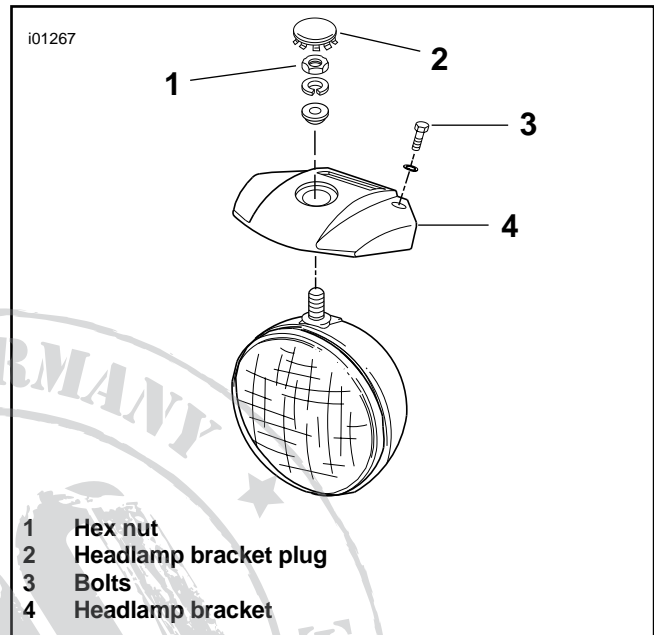

Figure 1. Headlamp assembly
1. See Service Parts illustration. Install the edge gasket (5) to the headlamp visor (2). The gasket should be installed at the headlamp opening as indicated in illustration. When installing gasket, start at the top of the headlamp opening and work gasket into place, finishing with the seam at the top.
3. See Figure 1. Remove the plug off the top of the headlight with a small flat screwdriver.
4. Remove the nut underneath the plug as shown. Replace the nut with the hex spacer (4) from kit. Leave the nut loose until Step 5 is complete.
6. Attach the rubber mount (3) to the hex spacer (4) and tighten securely.
7. Remove the bolts attaching the headlamp bracket to the vehicle. Attach the visor mount bracket (2) to the top of the headlamp bracket as follows: